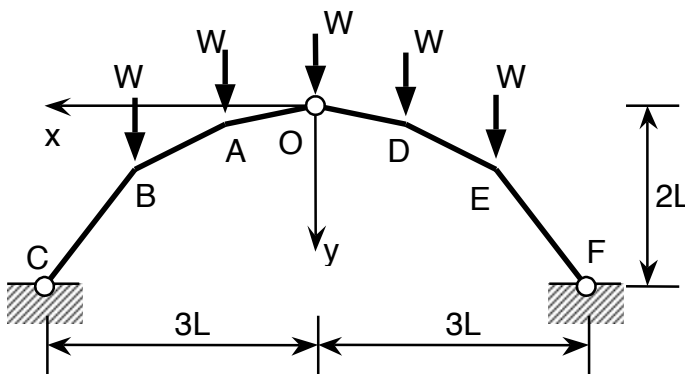

Figure 9
9. Figure 9 shows a symmetrical three-pin arch of given span $6L$ and rise $2L$. In the system of axes shown, points A, B, and C have coordinates $(L, 2\alpha L)$, $(2L, 2\beta L)$, and $(3L, 2L)$ respectively, where α and β are unknown "shape factors". The arch supports a deck which transfers five equal loads W to the arch, as shown. The self-weight of the arch itself can be neglected.